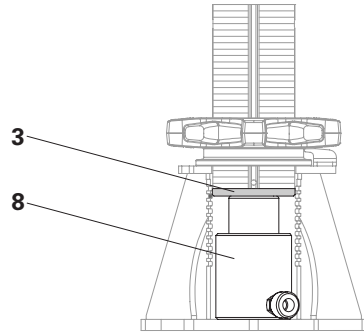
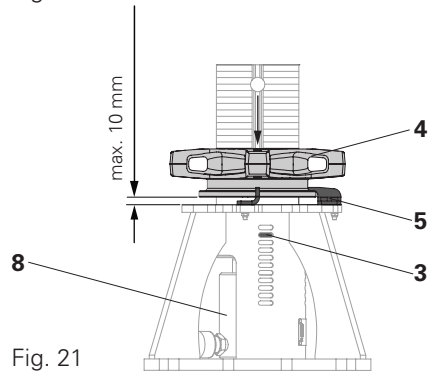

Fig. 20
Fig. 21
1. Operate pump lever (11f) until the piston of the cylinder (8a) rests centrally and flush on the red pressure piece (3). (Fig. 20)
2. Operate the pump lever (11f) until the adjusting nut (4) is free (1 - 2 pump strokes).
3. Turn the adjusting nut (4) upwards by hand in a counterclockwise direction until the locking nut rests against the hold-down (5). (Fig. 21)
4. Open the pump valve (11b) and monitor the position of the red pressure plate (3). (Fig. 20 + 21)
5. The cylinder retracts and is lowered by a max. of 10 mm together with the prop. (Fig. 21)